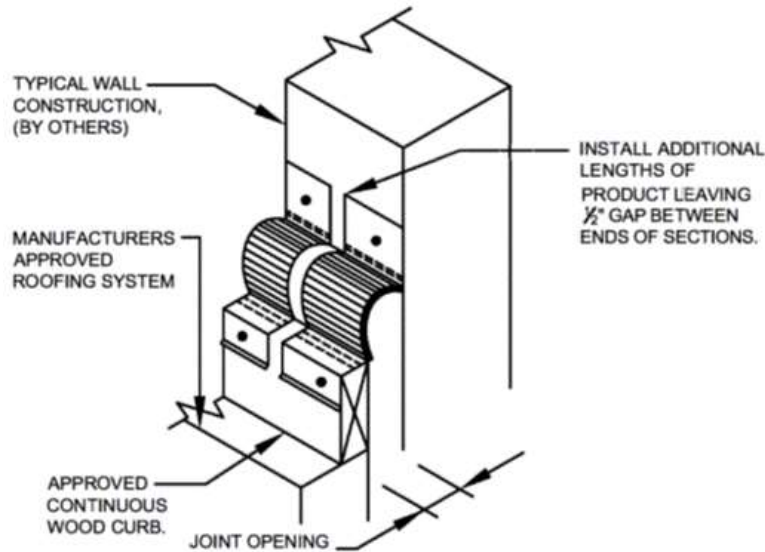

Figure 8
- Repeat steps 1 - 4 for remaining sections, being sure to provide $\frac{1}{2}$ " gap between ends of sections. **See Figure 8**